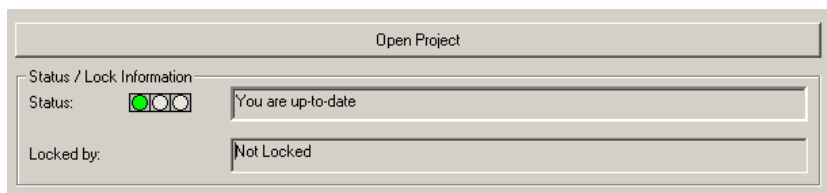

Figure 166. FF Management Aspect
2. Click **Open Project** in the selected **FF Management** aspect or via **context menu** (refer to Figure 166).